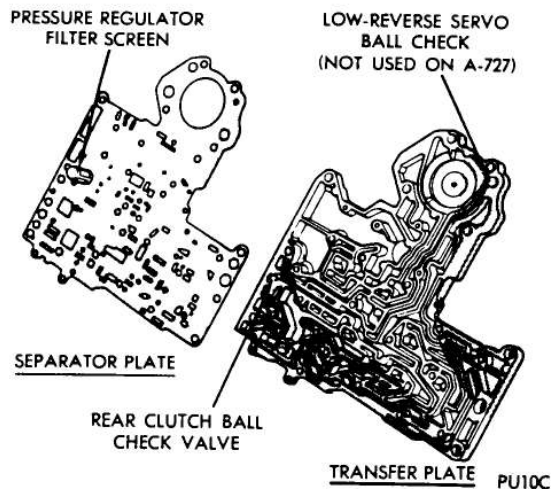

Fig. 4—Transfer Plate and Separator Plate
(9) Remove 3 screws from separator plate and separate parts for cleaning (Fig. 4).
(10) Remove rear clutch ball check, reverse servo ball check, and line pressure regulator valve screen from separator plate for cleaning (Fig. 4).
servo ball check (Fig. 4) in transfer plate and regulator valve screen in separator plate (Fig. 4).